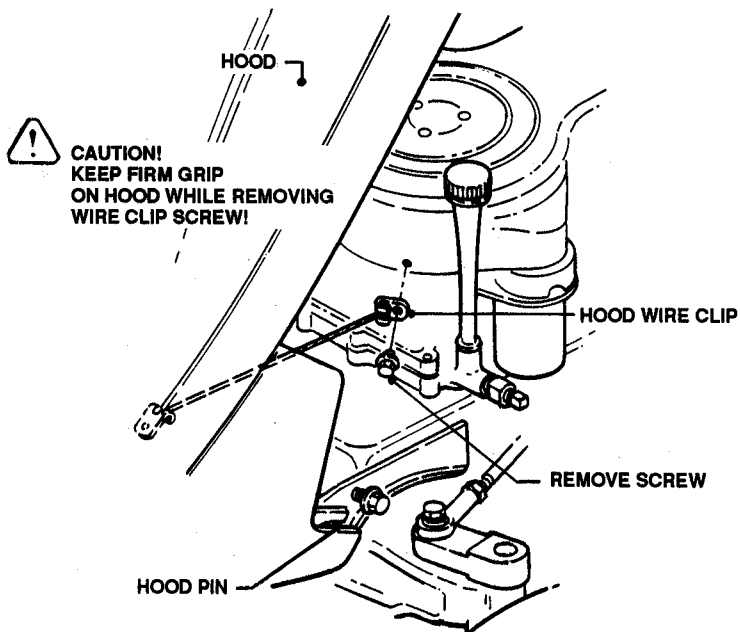

FIGURE 38
- Remove hood cable clip from engine. See Figure 38.